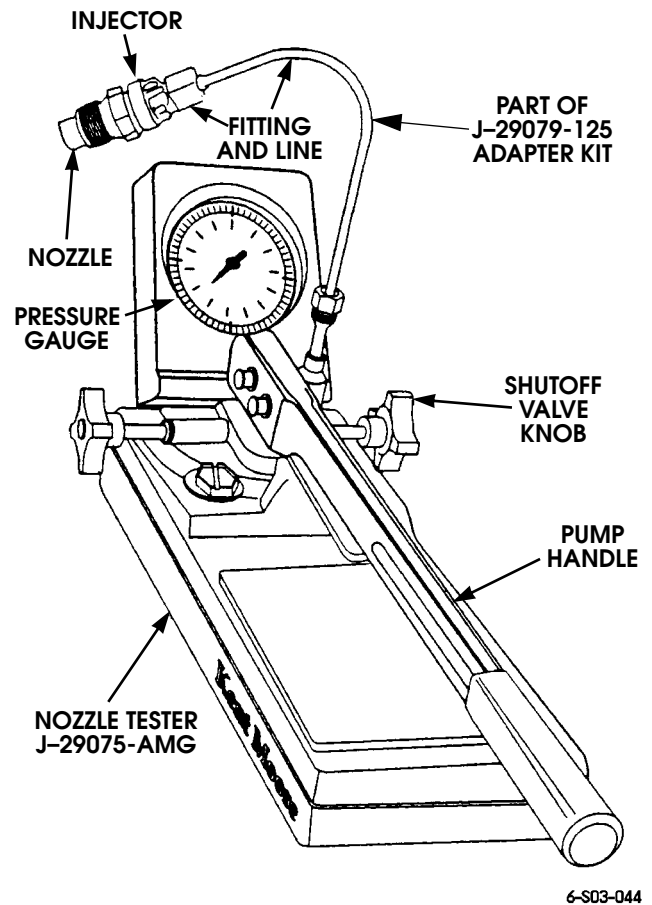

Figure 3-12: Pressure Testing Diesel Fuel Injector
4. Attach injector to fitting and line on test tool (Figure 3-12).
5. Close shutoff valve on tool (Figure 3-12).